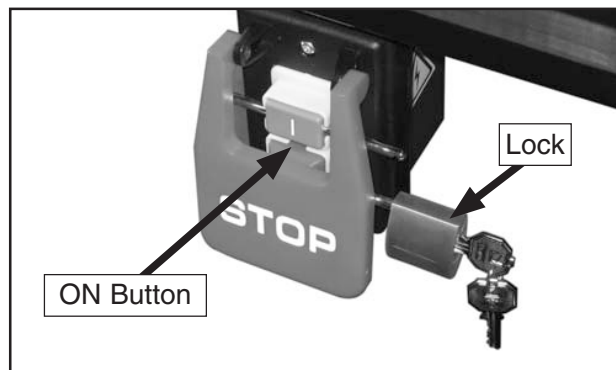

Figure 49. Switch disabling lock inserted into ON button.
8. Insert the switch disabling lock through the green ON button, as shown in **Figure 49**.